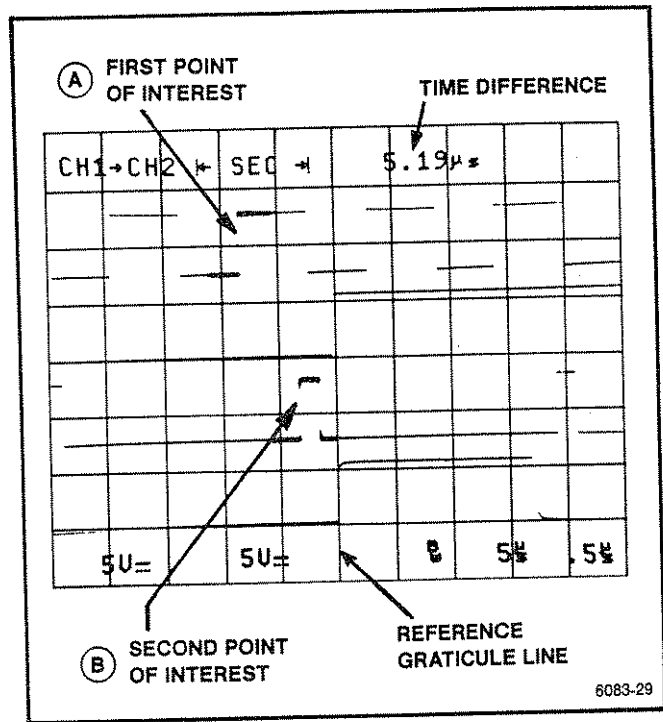

Figure 6-15. Time difference using Δ TIME with two delays.
6. Using the center horizontal graticule line as a reference point, set the reference delay to align the point of interest to be measured (point A in Figure 6-15) from to that reference point with the I- OR DELAY control. Set the Δ delay to align the second point of interest, displayed in the second B Sweep (point B in Figure 6-15), to the reference point using the -I OR Δ control. The measured